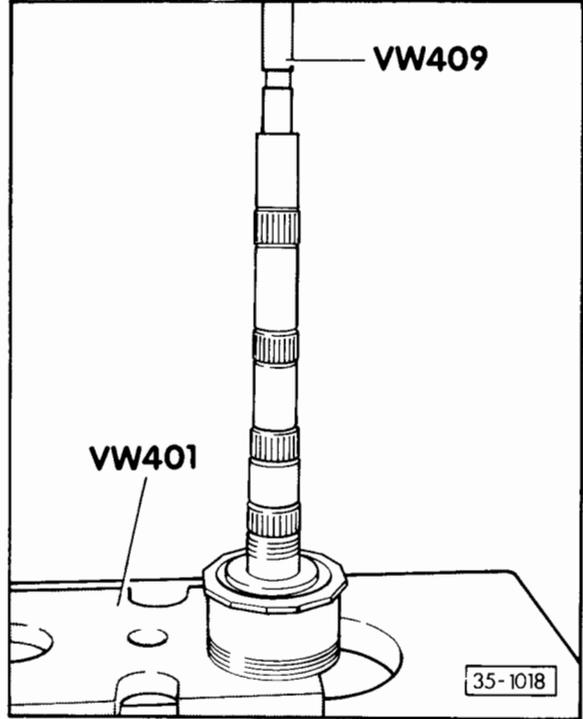

Fig. 3 Pressing double tapered roller bearing off via outer race
- Pressing off – Figs. 3 and 4